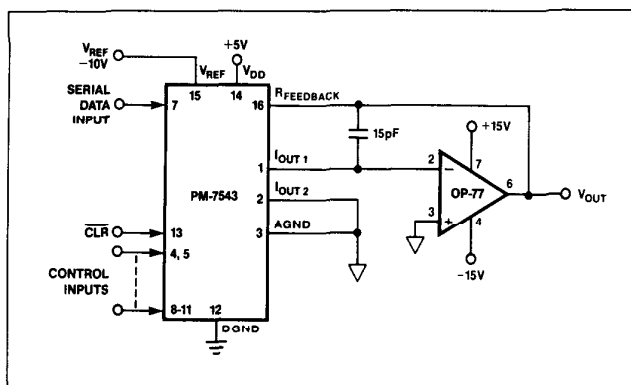

FIGURE 7: Unipolar Operation with High Accuracy Op Amp (2-Quadrant)
1. Phase compensation (see Figures 7 and 8).
In most applications, linearity depends upon the potential of I_{OUT1} , I_{OUT2} , and AGND (pins 1, 2, and 3) being exactly equal to each other. In most applications, the DAC is connected to an external op amp with its noninverting input tied to ground (see Figures 7 and 8). The amplifier selected should have a low input bias current and low drift over temperature. The amplifier's input offset voltage should be nulled to less than $\pm 200\mu V$ (less than 10% of 1 LSB).
The circuit shown in Figures 7 and 8 may be used with an AC or DC reference voltage. The circuit's output will range between 0V and approximately $-V_{REF}$ (4095/4096) depending upon the digital input code. The relationship between the digital input and the analog output is shown in Table 2. The V_{REF} voltage range is the maximum input voltage range of the op amp or $\pm 25V$, whichever is lowest.
1. Nominal full scale for the circuits of Figures 7 and 8 is given by $FS = -V_{REF} \left(\frac{4095}{4096}\right)$.
2. Nominal LSB magnitude for the circuits of Figures 7 and 8 is given by $LSB = V_{REF} \left(\frac{1}{4096}\right)$ or $V_{REF} (2^{-n})$.